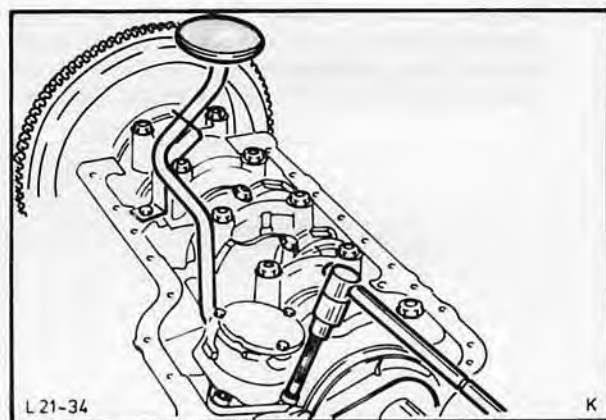

Fig. 85. Remove oil pump using Special Tool 21-012
23. Remove oil pump (3 bolts) using Special Tool 21-012, Fig. 85, Lift out oil pump drive shaft.